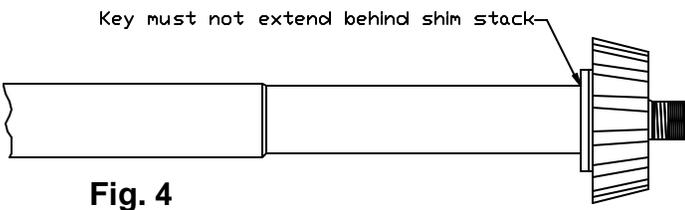

Fig. 4
9) Temporarily fit the Woodruff key to the taper and "try" fit the shim stack and pinion gear to the shaft. Mark the woodruff key and then modify the key if necessary by grinding or filing one end **ONLY** until the key does not protrude behind the rear surface of the shim stack when the shim stack is flush against the gear back surface. Place the thickest shim furthest away from the gear. Refer to Fig. 4 and Fig. 5